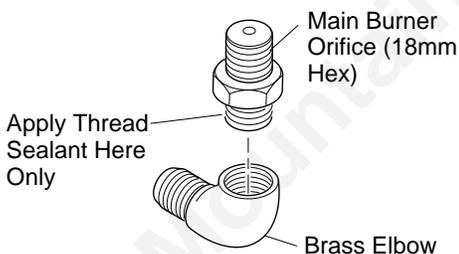

Figure 62 - Removing/Replacing Main Burner Orifice
6. Remove existing main burner orifice from brass elbow and replace with main burner orifice supplied with the fireplace. **Note:** The new main burner orifice for propane/LP will have the number 132 (Model MBDV37 only) or the number 139 (Model MBDV41 only) stamped on it for identification purposes. Apply a small amount of thread sealant to the orifice before tightening (see Figure 62, page 30). Sealant must be resistant to Propane/LP gas.
- Remove the burner by loosening the two 5/16" hex mounting screws (see Figure 62). Lift burner up and out.